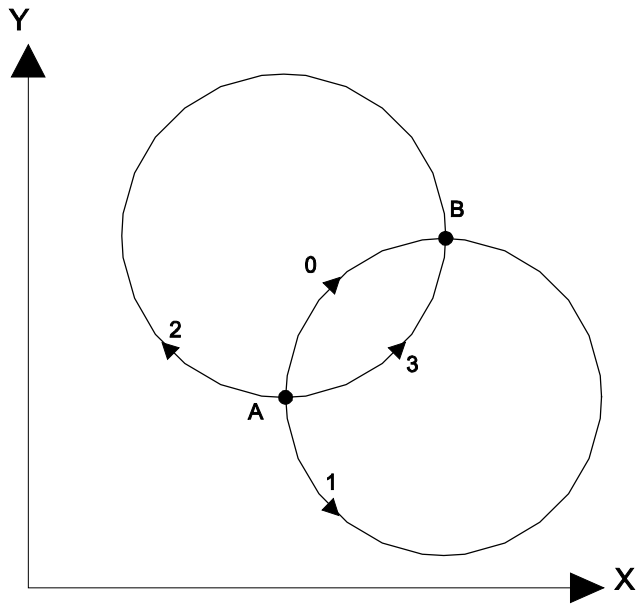

Figure 8-2 : Rotation modes (mode-r)
- The mode specifying one of the 4 possible solutions, Figure 8-2.